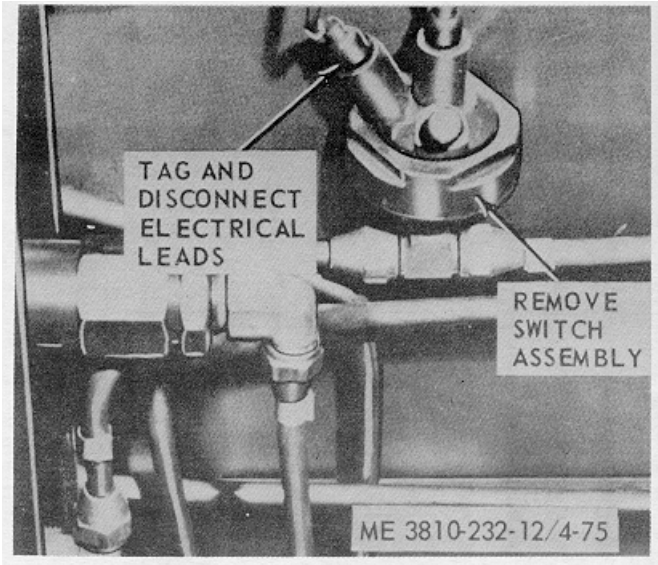

Figure 4-75. Stoplight switch, removal and installation.
a. Removal. Remove stoplight switch as illustrated in figure 4-75.
b. Installation. Install stoplight switch as illustrated in figure 4-75.